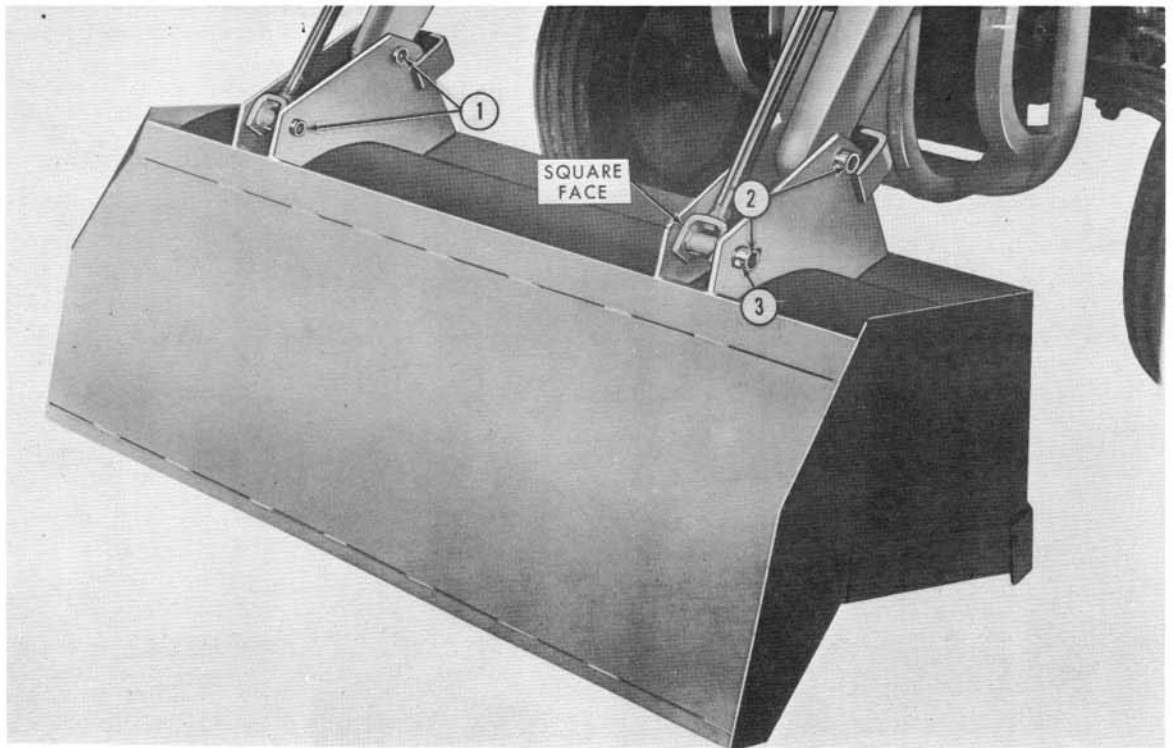

Figure 5
1. Position the bucket, lift arms, and cylinder rods as shown in Figure 5.
2. Install the 1" x 6" bucket attaching pins as shown at (2) and (3). Secure each pin with a 3/8" x 2-1/2" grade 5 hex head bolt and self-locking nut (1).
**NOTE:** The square face of the cylinder rod end must be forward as shown in Figure 5. The longer portion extends toward the lift arm and provides a bucket stop when the bucket cylinder is retracted.